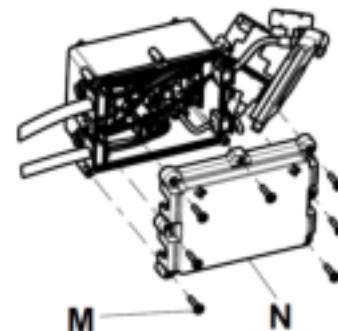

Figure 4
10. Using a T20 Torx drive, remove the seven round washer head tapping screws (M) that secure the top cover (N) to the HBC enclosure assembly (Figure 4). Remove and save the top cover. Save the screws.